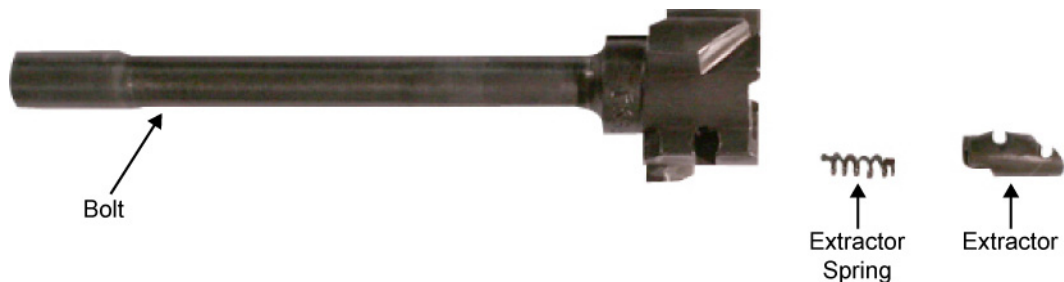

Figure 5. Remove the Extractor and Extractor Spring.
4. Remove the extractor and extractor spring from the bolt. Refer to Figure 5.